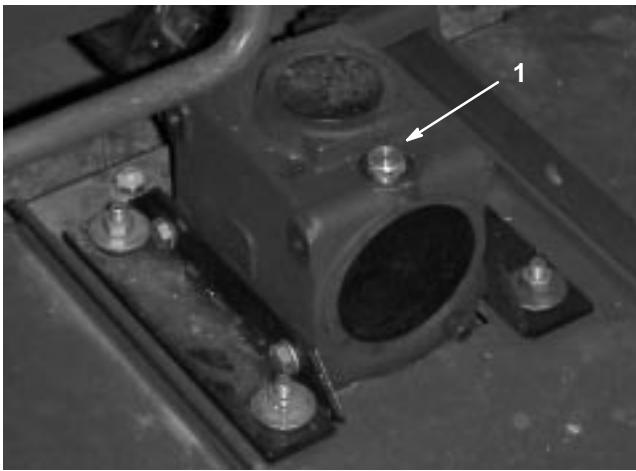

Figure 9
2. Remove the dipstick/fill plug from the top of the gear box (Fig. 9) and make sure that the lubricant is between the marks on the dipstick. If the lubricant level is low, add enough lubricant until the level is between the marks.